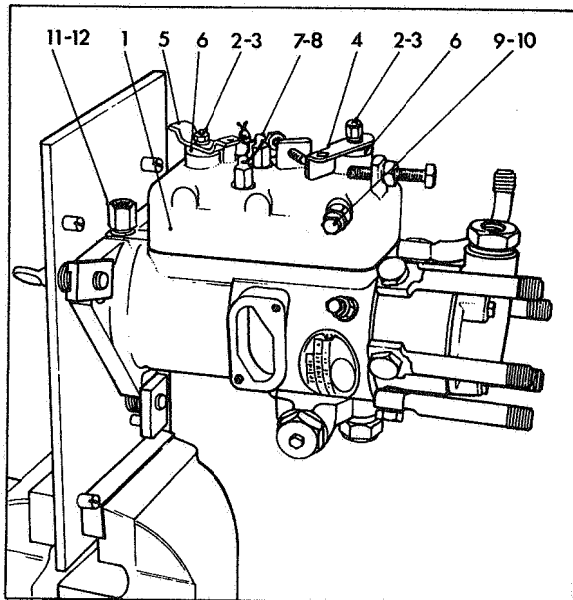

Fig 1 Pump & mounting fixture
Secure Fixture Part No 7044-888F in vice. Secure the pump to the fixture with governor control cover (1) uppermost as shown in Fig 1.